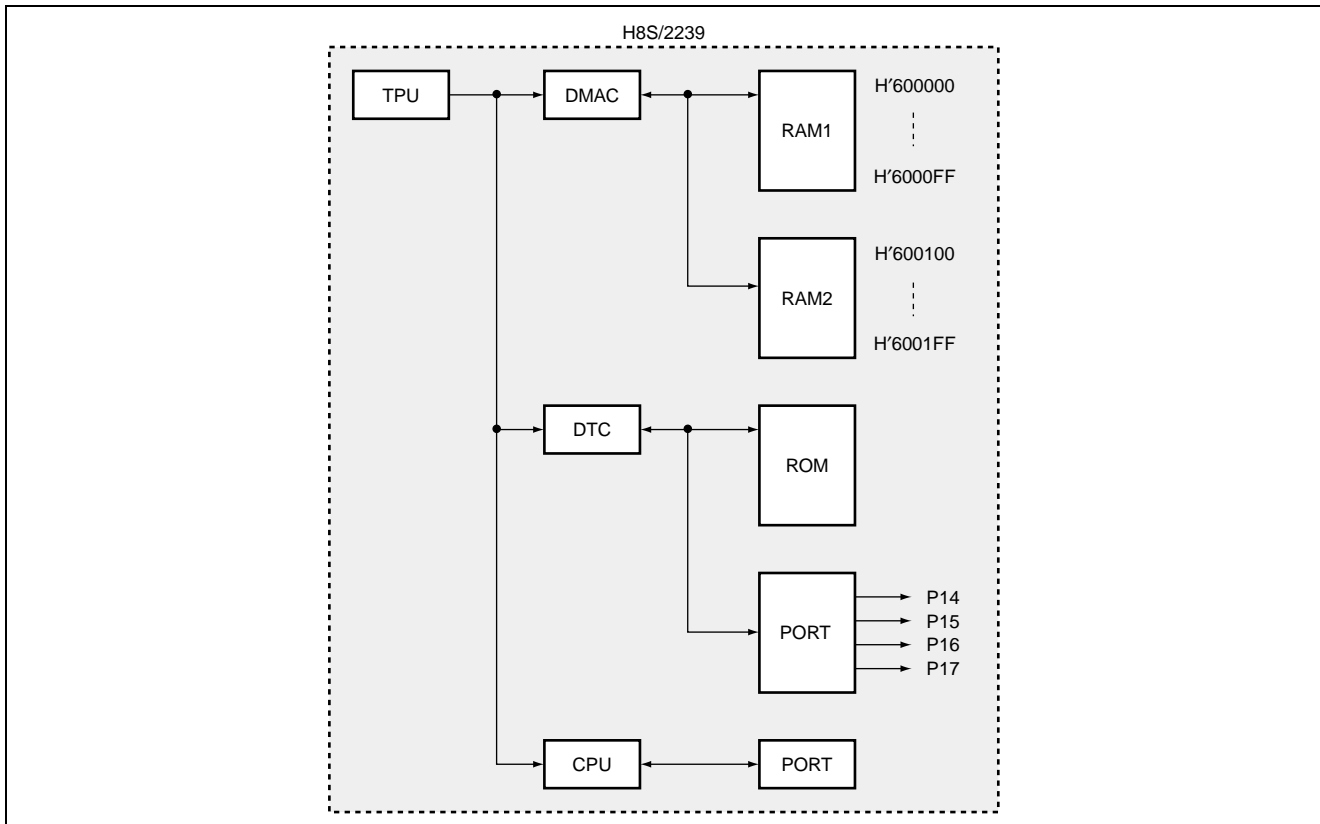

Figure 1 Block Diagram of Simultaneous Startup of DTC, DMAC, and CPU
- As shown in figure 1, this sample task starts up DTC, DMAC, and CPU each time a timer compare match occurs. DTC transfers data to I/O Port from the data table (ROM) to output the pulses. The DMAC transfers 512-byte data stored in RAM1 to RAM2. The CPU monitors the state of the port. When the port goes low, the CPU stops DTC and DMAC transfer. An interrupt to the CPU continues to be enabled.